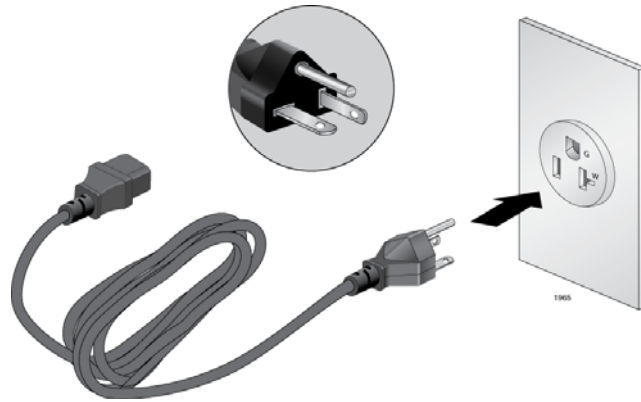

Figure 28. 100 - 125 VAC 125 V NEMA 5-20 Plug and Receptacle
- ☐ The power cords provided with the AT-SBxPWRSYS1 and AT-SBxPWRPOE1 Power Supplies for 100-125 VAC installations have 20 Amp, 125 V NEMA 5-20P plugs. The plugs are only compatible with NEMA 5-20R receptacles. See Figure 28 on page 69.